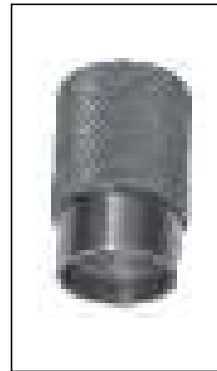

Fig. 1.12A
6. Tool fork oil seal - N931 018 0 (Fig. 1.12A)